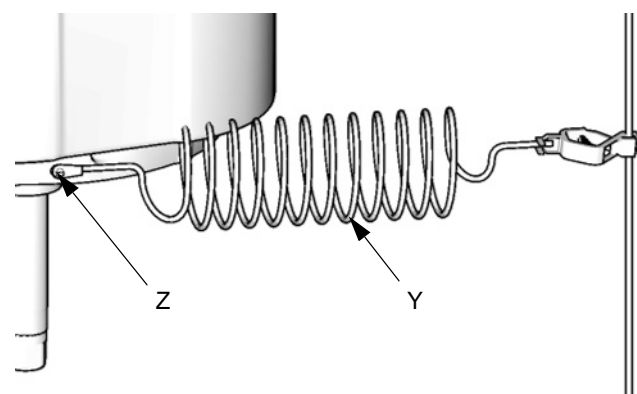

FIG. 1. Ground Wire
Pump: use a ground wire and clamp. See FIG. 1. Remove the green ground screw (Z) from the bottom of the air motor. Insert the screw through the loop on the end of the ground wire (Y) and reattach the screw to the air motor. Connect the ground clamp to a true earth ground. Order Part No. 244524, Ground Wire and Clamp.